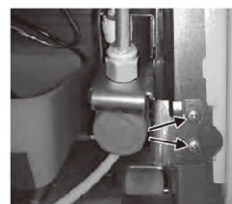

Fig 4
6. Attach the Water Inlet Valve to frame of refrigerator using two 4x12 Hex Screws. (See Fig 4.)